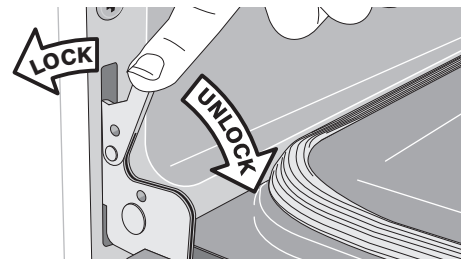
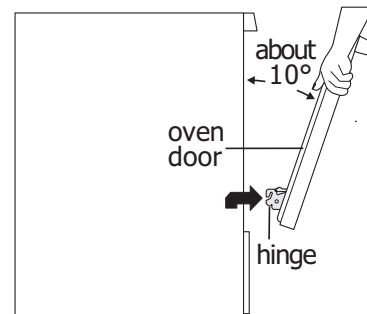

Figure 29: Door hinge locked
Figure 30: Unlocking door hinge
2. Pull up the lock located on each hinge support toward front of the oven until the lock stops. You may have to apply a little upward pressure on the lock to pull it up (Figure 29 and Figure 30).
4. Push the door hinge locks up toward and into the oven frame on both left and right oven door hinges to the locked position (Figure 29)